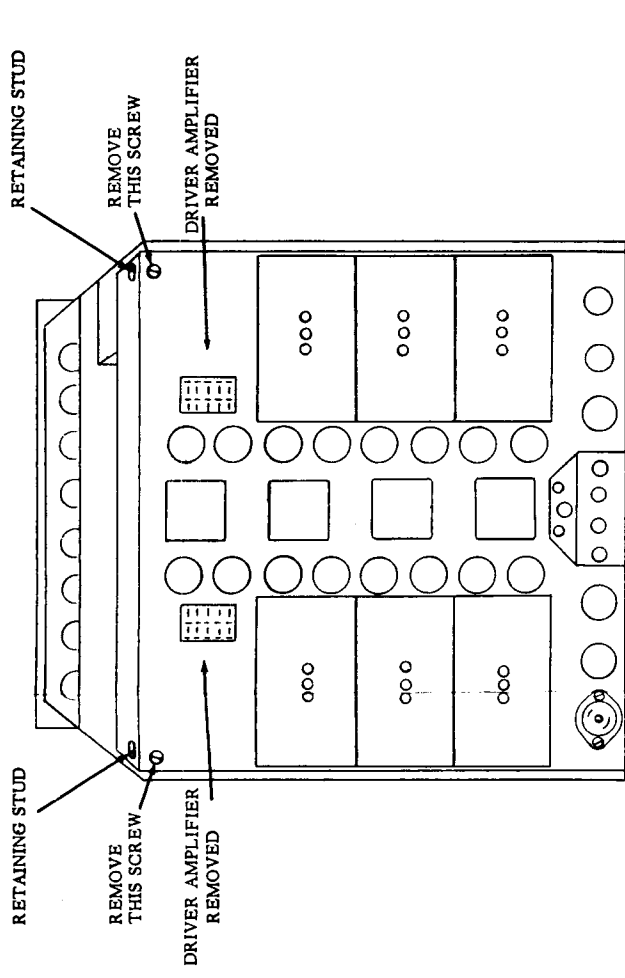

FIG. 2 RECORDER REAR VIEW
- Remove the top two Driver Amplifiers from the power supply which hangs on rear of recorder. Two screws will be exposed. Remove them. (See figure 2).
2	Transfer Chassis Assembly See figure 2.